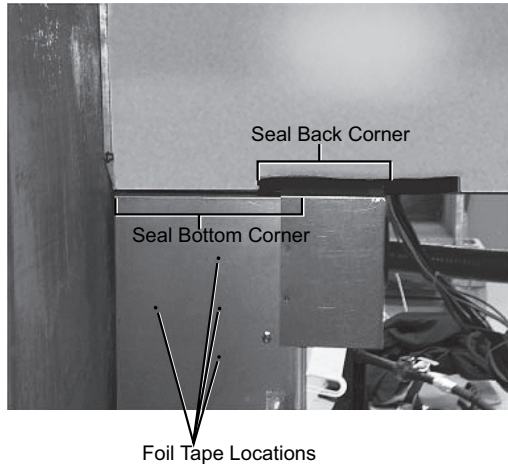

Fig. 7 — Seal Strip and Foil Tape Location
6. Add seal strip to the rear bottom corner of the control panel as shown in Fig. 7. Foil tape open screw holes on the back of the single point box as shown in Fig. 7. Different single point boxes will have different screw holes open.